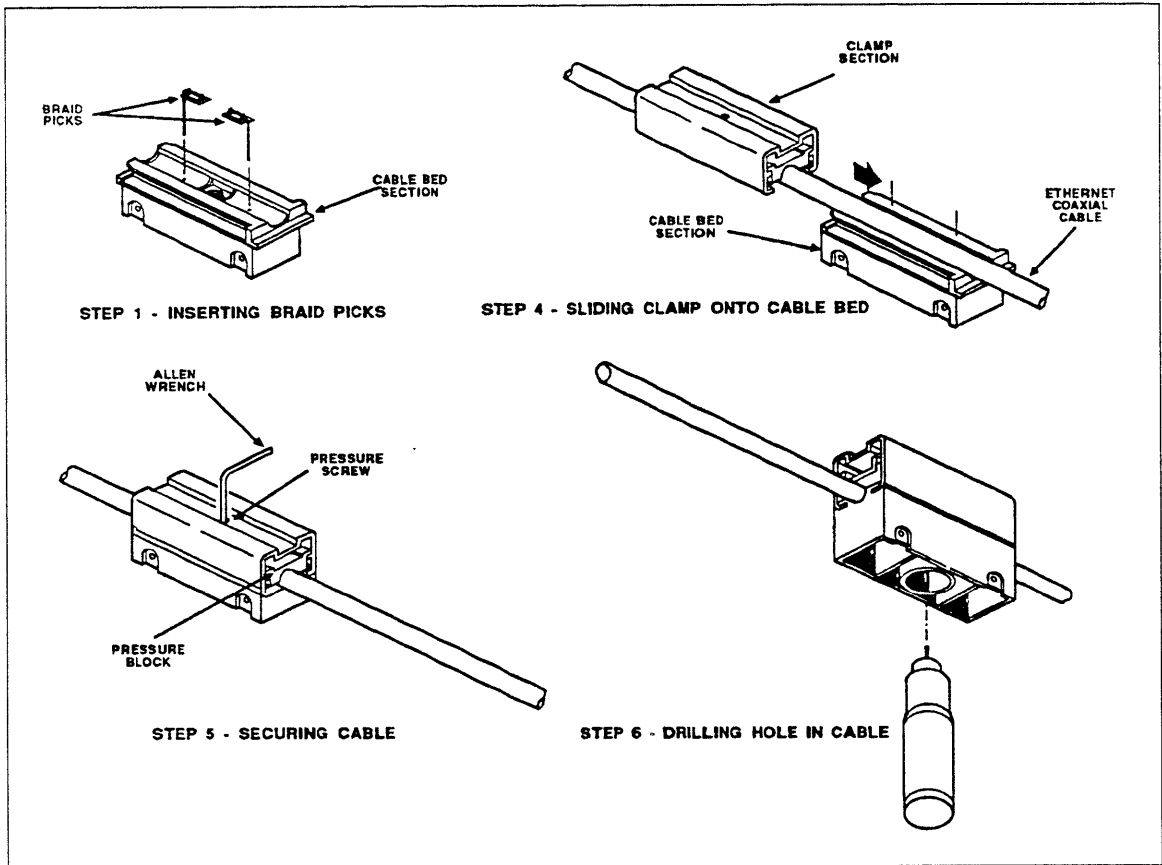

Figure 2-7. TN111B Transceiver and YA331A Tap Installation - Part 1
1. Insert pins on braid picks through holes in cable bed section of tap (figure 2-7). Position picks so they face inward.
5. Using an Allen wrench, thread pressure screw into clamp section until pressure block bottoms on track and holds cable securely. Check that pressure block bottoms on all four corners (figure 2-7).
6. Using drill bit end of cable tap tool, drill through cable to center conductor (tool has a stop to prevent overdrilling). Hole should go through outer jacket, braid shield, and into white dielectric (figure 2-7).